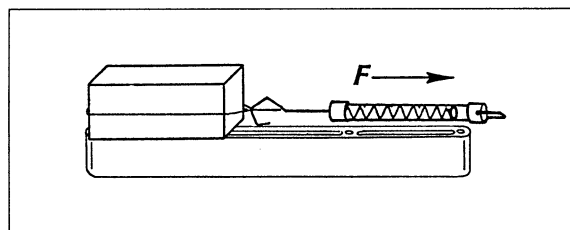

Fig. 3 Sliding friction where the surface area in contact has been reduced because pulley bridge acting as sliding support has been placed on its side.
5. Position one of the pulley bridges as shown in fig. 3. Pull the cuboid smoothly along on top of it from left to right. Take a reading for F . Enter the value ► Table.